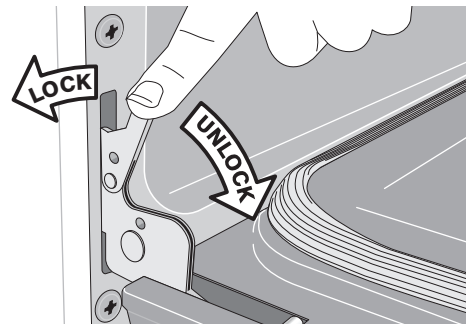

Figure 24: Hinge lock/unlock positions
2. Pull the door hinge locks on both left and right door hinges down from the oven frame completely towards the oven door (Figure 24). A tool such as a small flat-blade screw-driver may be required.
4. Push the door hinge locks up towards and into the oven frame on both left and right oven door hinges (Figure 24) to the locked position; then, close the oven door.